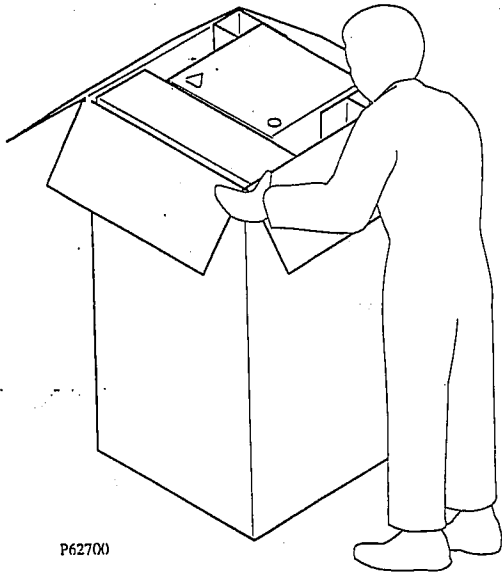

FIGURE 1: OPENING SHIPPING CARTON
1) To open carton, remove staples and open top flaps (see Figure 1).